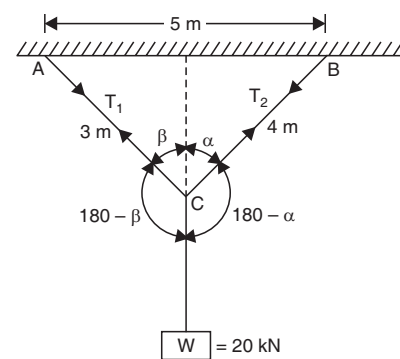

Fig. 2.33
**Example 2.16.** Fig. 2.33 represents a weight of 20 kN supported by two cords, one 3 m long and the other 4 m long with points of support 5 m apart. Find the tensions  $T_1$  and  $T_2$  in kN in the cords.
**Sol.** Refer to Fig. 2.33.